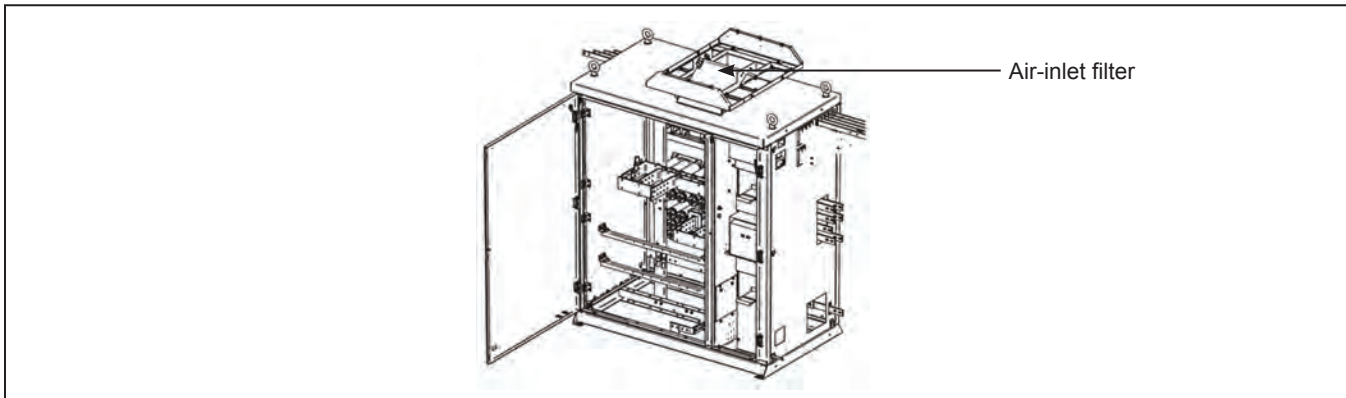

Figure 22. Location of the air-inlet filter.
- ☐ Inspect the air-inlet filter for debris and obstructions that can cause air flow restrictions. See Figure 22. The filter can be replaced by unbolting the top of the air-inlet vent hood with a wrench and screwdriver. When the hood is opened, the filter must be bent into place and secured by the clips provided. The white part of the filter should face up, and the pink part of the filter should face down into the switchgear bay.